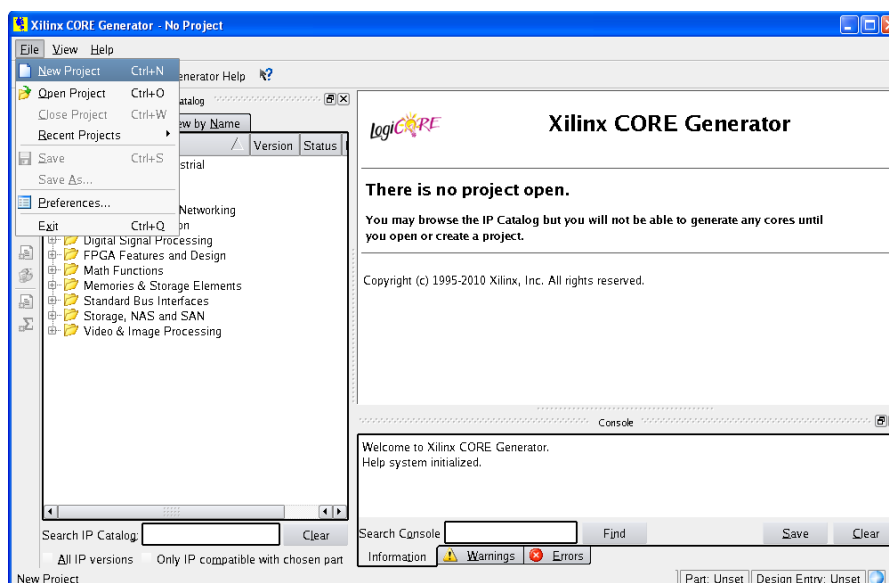

Figure 3-2: Starting a New Project
3. Choose **File** → **New Project** (Figure 3-2, page 16).